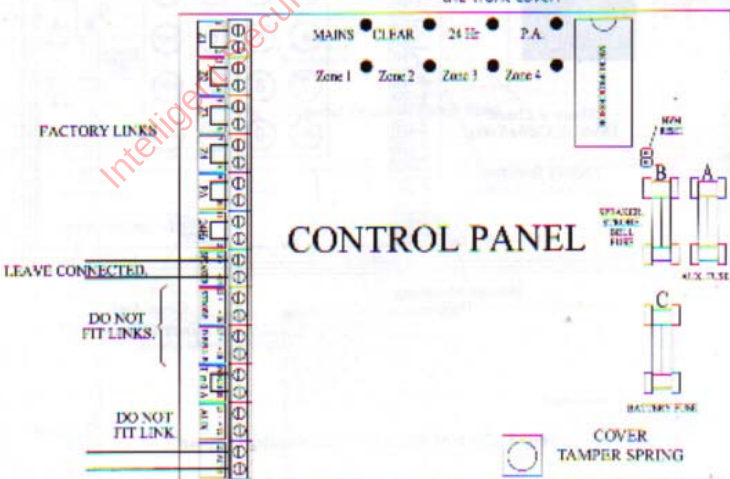

Fig. 4. Control Panel PCB Layout Showing Factory Links Fitted
2. If the PIR LED does not light, check the power supply to the PIR, possibly damaged cable or control panel fuse blown (Fuse A), (see Fig. 4, Page 10).